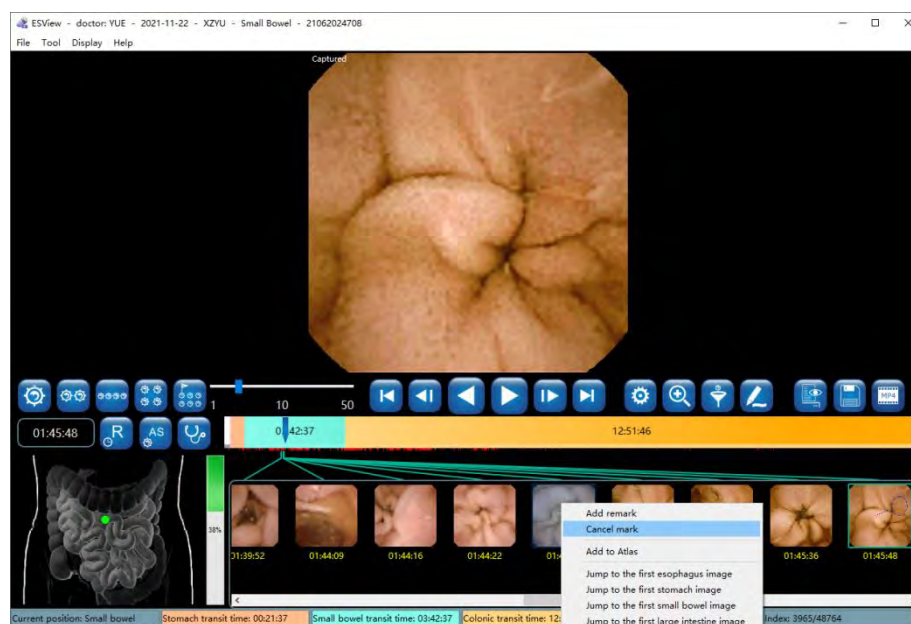

Figure 4-30: Thumbnail “Cancel Mark”
3. In the thumbnail display area, right click on a thumbnail, then select “Cancel mark” in the pop-up menu to remove the thumbnail from the thumbnail area, as shown in Figure 4-30. Multiple thumbnails can be removed together by left clicking the thumbnails to be deleted while holding down the Ctrl key or by holding down the left mouse button and dragging the mouse to select multiple thumbnails, and then right clicking to select “Cancel mark” from the pop-up menu.